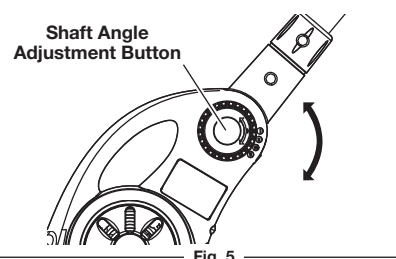

Fig. 5
1. Squeeze the shaft angle adjustment buttons on both sides of the motor housing (Fig. 5).